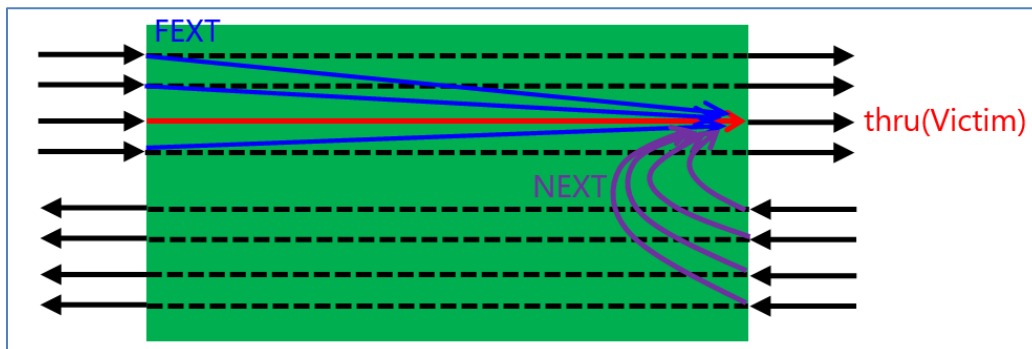

FIGURE 45. THRU TEST LANE AND FEXT & NEXT CROSSTALK LANES
2. Based on Figure 45 below, measure the FEXT and NEXT crosstalk characteristics according to the characteristics of the measurement lane and the crosstalk environment during testing. Measure each S-parameter and save the results as a S4P file for each test channel and Test 1 & Test 2 cases.